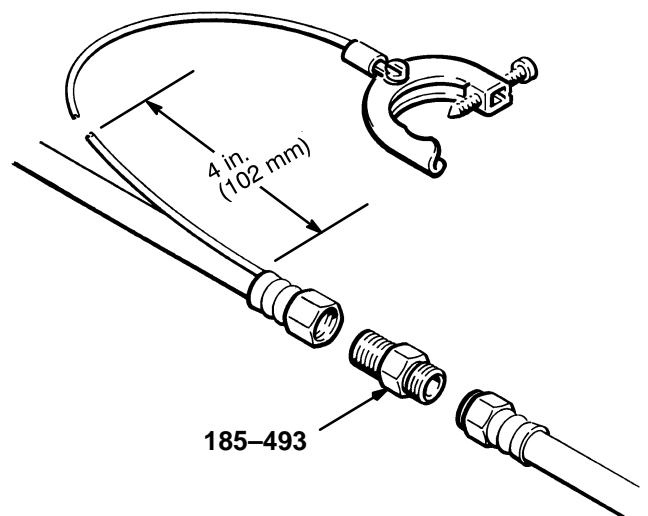

Fig 1
1. Connect the hose adapter between the ends of the air hoses as shown in Fig 1.
Check the Electrical Grounding (See Fig 1)